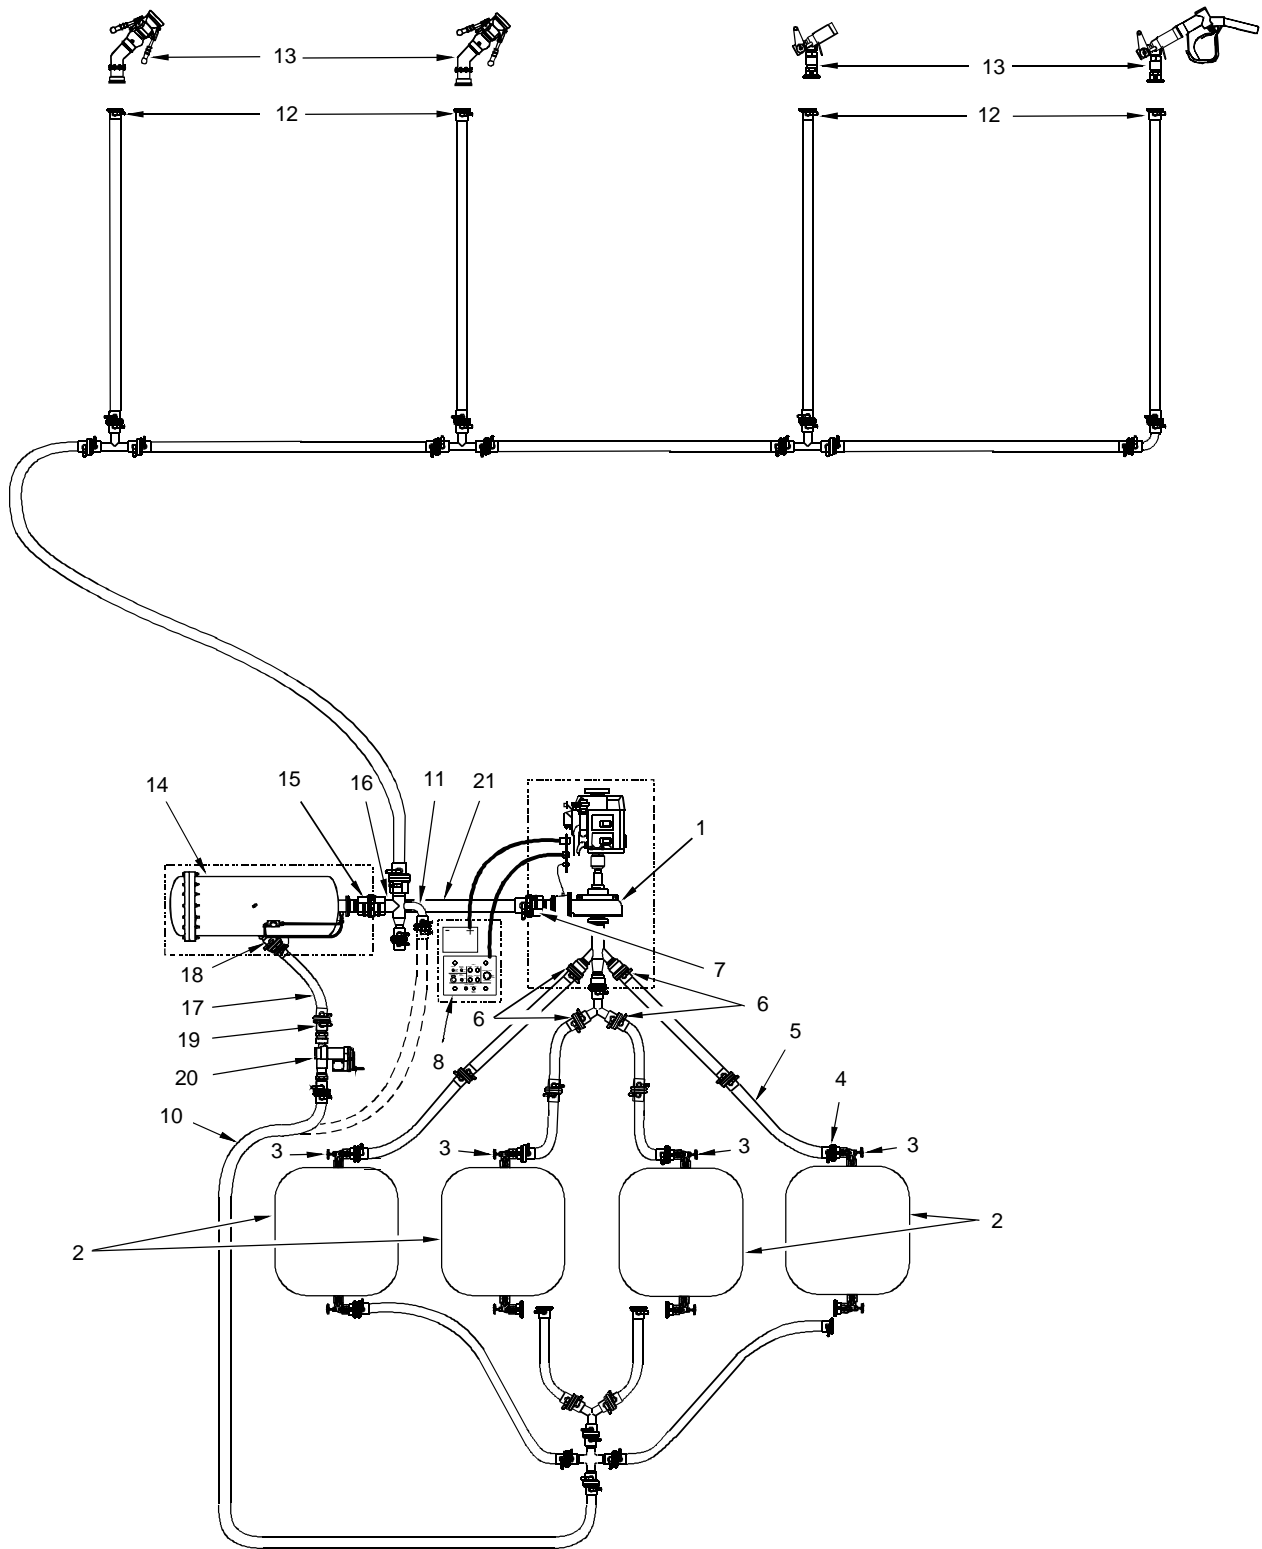
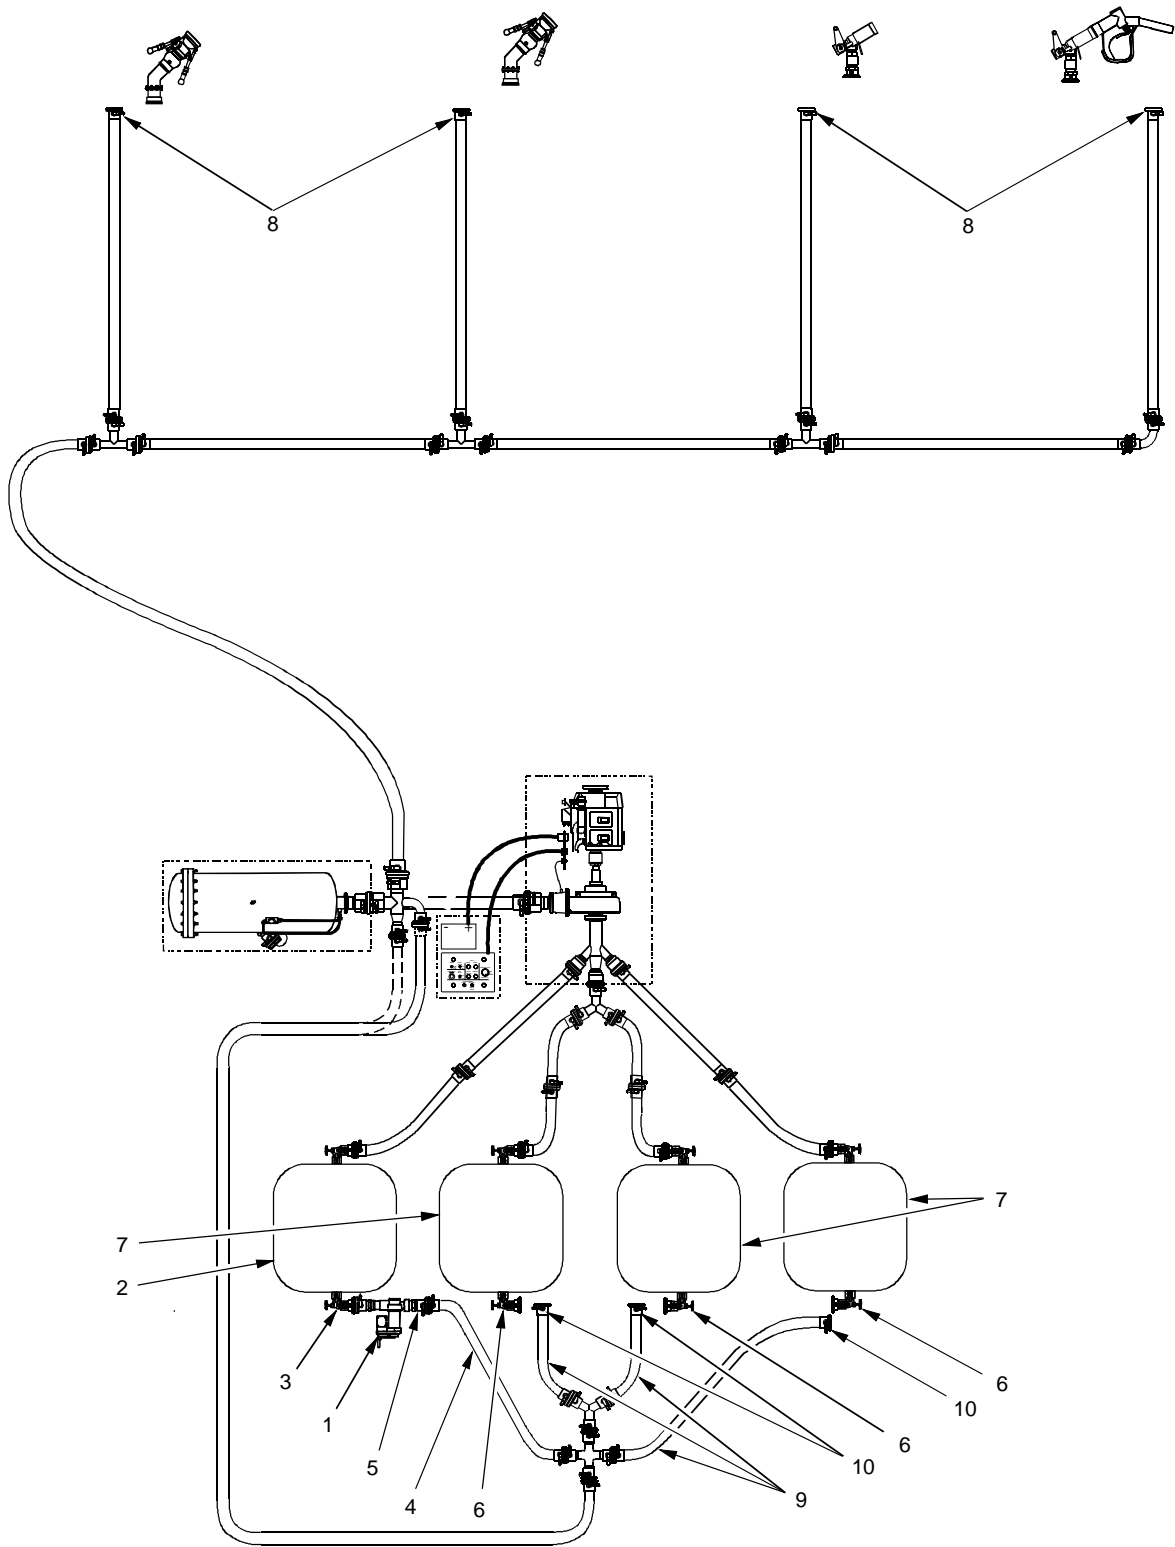

Figure 10. Defueling Liquid Fuel Filter-Separator
Figure 11. Defueling System Fuel Hoses
- a. Close unisex coupling (figure 10, 15) on liquid fuel filter-separator (14) outlet valve.
- b. Close discharge unisex coupling valves (12) and disconnect and drain all nozzles (13).
- c. Select a fuel drum (figure 11, 2) to defuel into.
- d. At selected fuel drum (2), close inlet elbow valve (3) and unisex coupling valve on discharge hose (4), disconnect discharge hose (4) from inlet elbow valve (3), connect the discharge hose (4) to the flow side (5) of auxiliary pump (1), and open unisex coupling valves on flow side (5) of auxiliary pump and discharge hose (4).
- e. Connect auxiliary pump (1) unisex coupling to inlet elbow valve (3) unisex coupling, and open unisex coupling valve and inlet elbow valve (3).
- h. One at a time, open unisex valves (8) on discharge hoses at fueling points. Close unisex valve (8) as hose collapses.
- i. At recirculation manifold (figure 10, 16) close unisex valve to refueling points to isolate discharge hoses.
- j. Turn off auxiliary pump (figure 11, 1).
- k. Disconnect inlet elbow valve (3) from fuel drum (2).
- l. Disconnect discharge hose (4) from auxiliary pump (1).
- m. Hold auxiliary pump (1) over container. Open unisex coupling valve (5) and drain fuel. Close unisex coupling valve (5).
- n. Hold auxiliary pump (1) over container and disconnect auxiliary pump (1) from inlet elbow valve (3).
- o. Disconnect auxiliary pump power cable from auxiliary pump module (1) and stow cable in accessory module.
- p. Install elbow valve coupler (3) on fuel drum (2) and open elbow valve coupler (3).
- q. Open elbow valve couplers (6) on remaining fuel drums (7).
**DEFUELING PROCEDURE** (Refer to figure 10.)**WARNING**
1. With the fuel transfer pump (1) running:
- a. Close all fuel drum (2) outlet elbow valve couplings (3).
- b. Close all unisex couplings (4) at fuel drum end of suction hoses (5).
- c. Beginning at fuel drums (2), disconnect suction hoses (5) one at a time, open unisex coupling (4), hold hose end higher than intake manifold and close unisex coupling (6) at far end (intake manifold) of suction leg. Close unisex coupling (4) at free end of leg and install dust cap.
- d. Connect suction hose (17) removed from fuel transfer pump (1) inlet to the defueling unisex coupling (18) and the unisex coupling (19) on the flow side of the auxiliary pump (20). Open unisex coupling valves.
- e. Connect discharge hose (10) to auxiliary pump (20) and open unisex coupling valves.
- f. Connect auxiliary power cable to auxiliary pump (20).
- g. Open liquid fuel filter-separator (14) manual vent valve.
- h. Turn on auxiliary pump (20) to pump down liquid fuel filter-separator (14) and 3 in. x 6 ft discharge hose (21) from fuel transfer pump (1).
- i. Close liquid fuel filter-separator (14) inlet valve and manual vent valve when air is seen in the sight gauge.
- j. Turn off auxiliary pump (20), and close auxiliary pump unisex inlet and outlet valves.
- k. Remove the recirculation manifold (16) from the filter-separator and place flat on ground.
- l. Disconnect discharge hose (10) from auxiliary pump (20) and connect to recirculation manifold full flow unisex coupling (11).
- m. Disconnect suction hose (17) from auxiliary pump (20) and liquid fuel filter-separator (14).